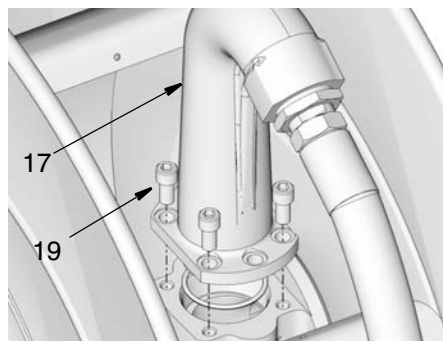

FIG. 21
6. Reinstall outlet (17) to spool. Replace and tighten bolts (19) securely. Torque bolts to 24 to 30 ft. pounds (32.54 to 40.67 N.m) (FIG. 21).